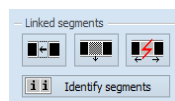

Figure 142 – Linked segments section of the Define layout tool
2. Press the  button on the second tab (the  icon) of the tools panel (see Figure 142).
- Press the  button on the second tab (the  icon) of the tools panel (see Figure 142).